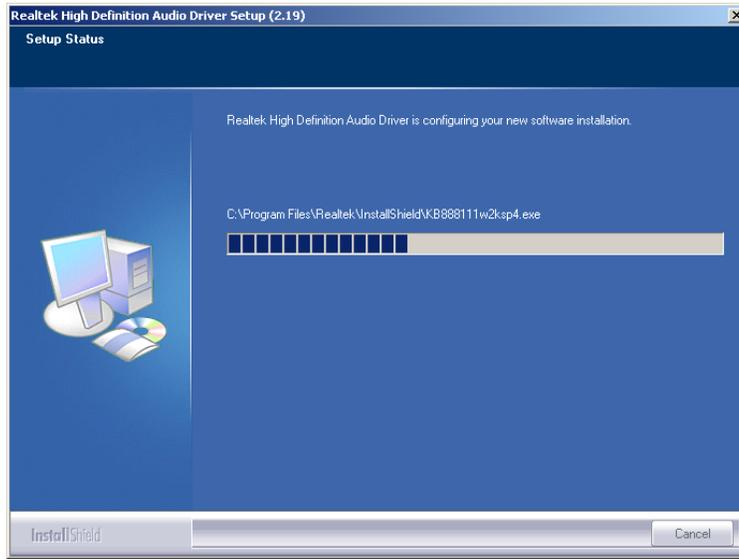

Figure 6-10: Audio Driver Software Configuration
Step 7: InstallShield starts to install the new software as shown in **Figure 6-10**.